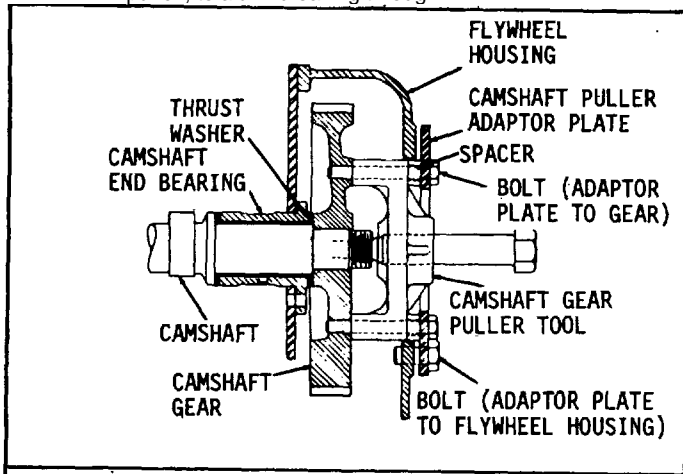

Fig. 6
- (7) Remove the front balance weights.
- (8) Remove the thrust washer between the bearing and the balance weight hub.
- (9) Remove the lock screws that secure the camshaft intermediate bearings.
- (10) Remove the three bolts that secure the camshaft bearing to the front end plate.
- (11) Install the camshaft gear puller J 1902-01, four spacers J 6202-2 and camshaft gear puller adaptor plate J 6202-1 on the camshaft gear (Figs. 6 and 7).
- (12) Turn the center screw of the puller clock-wise to disengage the camshaft from the camshaft gear.